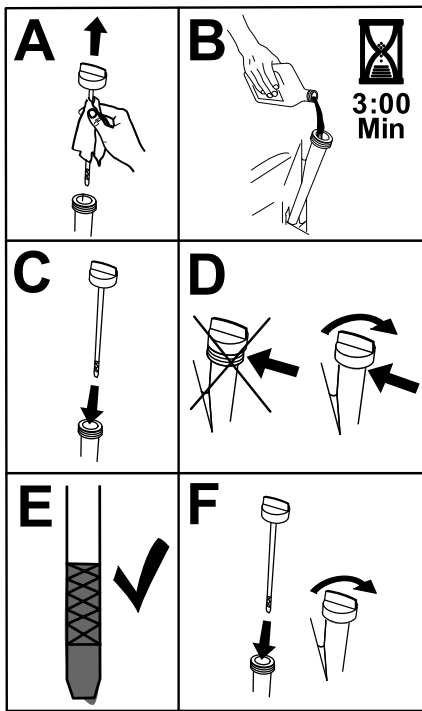

Figure 43
6. Slowly pour approximately 80% of the specified oil into the filler tube and slowly add the additional oil to bring it to the Full mark (Figure 43).